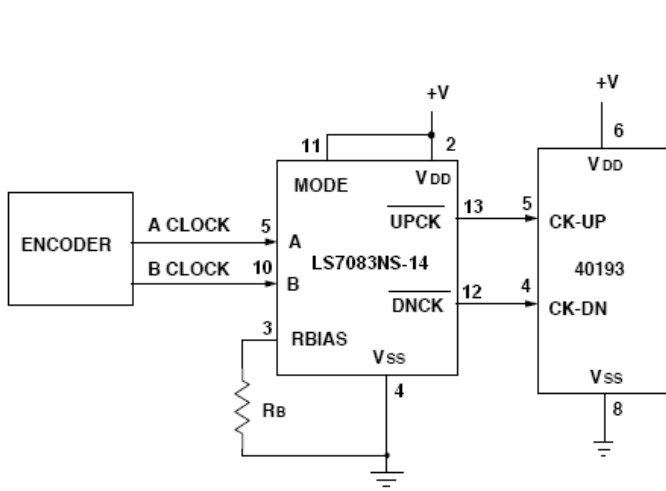

FIGURE 6A. TYPICAL APPLICATION FOR LS7083NS-14 in x4 MODE
- Interface incremental encoders to Up/Down Counters (See Figure 6A and 6B)